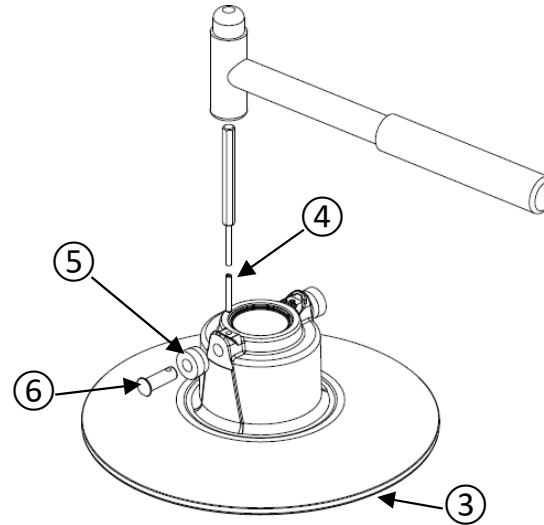

Figure 29
- Insert the 2 roller pins ⑥ in the 2 rollers ⑤.
- Insert the 2 roller pins ⑥ and the 2 rollers ⑤ in the sliding sheave ③; the holes of the roller pins ⑥ must be aligned with the holes of the sliding sheave ③.
- Using a 3mm punch and a hammer, insert the 2 spring pins ④ in the sliding sheave ③, making sure that the spring pins ④ are inserted in the roller pins ⑥ (see figures 29 and 30).